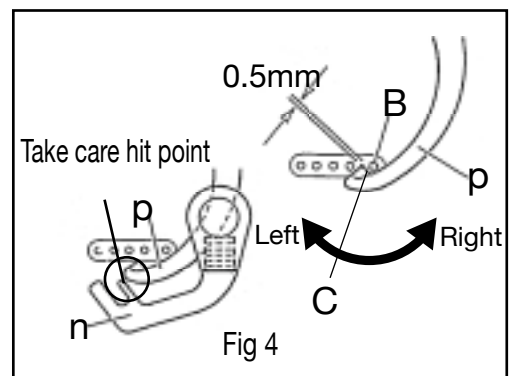
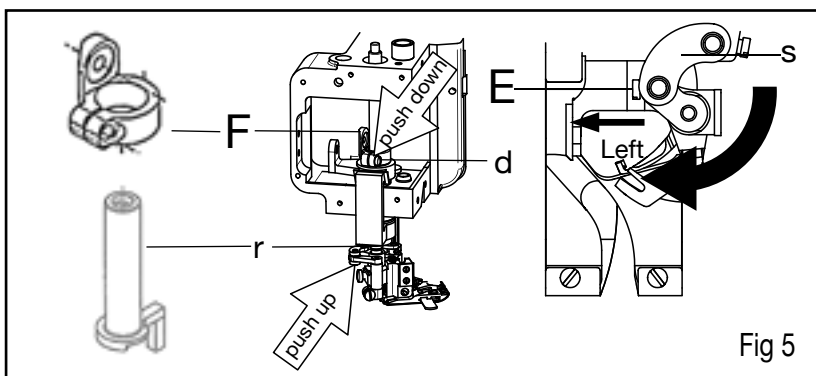

Fig 4
Fig 5
3-4-3. To turn the hand-wheel and move the looper rocker shaft a to the beginning. The inner shaft d of Measuring Gauge b will be pushed out by looper rocker shaft a at this moment. The pushed out length of inner shaft d is 2.4mm. In the meanwhile, the clearance between the big side of inner shaft d and the bushing of Measuring Gauge b is 0mm. (Fig 4)
3-4-4.If the moving distance of looper rocker shaft from the beginning to the end is more or less than 2.4mm. (Fig 4) Please loosen the screw f (Fig 5) to adjust the distance. The distance will be decreased when the feed rocker link h is moved up. In the other way, the distance will be increased!!
- 3-7-1. To turn the hand-wheel and move the looper a to the left dead point. Please lock the needle c into the groove of Measuring Gauge b. The distance between the tip of looper and needle c is 4.76mm. Please loosen the screw for adjusting. (Fig 4)
- 3-8-4. Please adjust the height of feed dog after installed the differential feed dog. Please height of differential & main feed dog is 1.3mm from the needle plate d to the tip of feed dog. (Fig 4)
3-9-4. To turn the hand-wheel and move the hook edge C of long top cover thread carrier p to the fake needle B. The clearance between the hook edge C of long top cover thread carrier p and fake needle B is 0.5mm. Please take care that the short & long top cover thread carrier can't be hit each other when they be crossed (Fig 4).
3-9-5. The operated procedure how to tighten the screw d (Fig 5) : To turn the parts s to the left which to let the screw E face to the left. To press the carrier hook sleeve lever and parts r. Then, tighten the screw d (Fig 5).
3-10-3. When the presser foot is lifted. Please avoid the presser bar connecting bracket to hit the machine body (Fig 3) and the upper knife holder h hit the knife holder shank support f (Fig 2). When the hit is be happen. Please loosen the screw i or screw j of presser foot lifter shaft to adjust It (Fig 4).